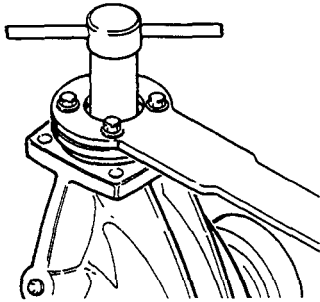

Figure 31
3. Enter the pinion from the back of the carrier and into the flange. Use the tool as illustrated to draw the pinion spline into the companion flange, sufficiently for the pinion nut to start on the threads. (see Fig. 31).